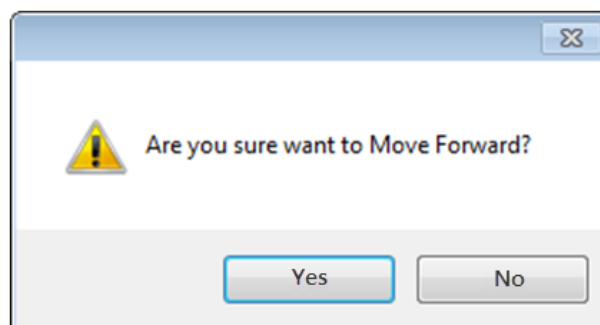

Fig. 6-30. Message window
- Launch approaching the probe by clicking  button. A message window (Fig. 6-30) will appear. To continue the approaching process, click the **Yes** button in this window. The sample will move up until the distance defined in the **Approach Settings** window is reached. Watch the approaching process on the image provided by the videomicroscope.